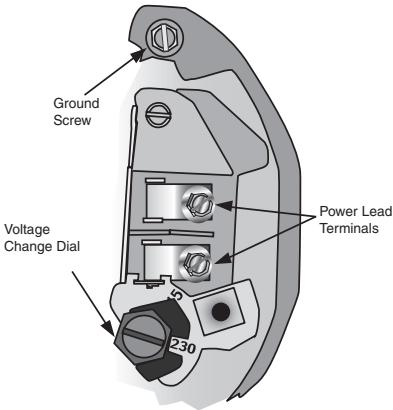

FIGURE 8 - VOLTAGE SET TO 230 VOLT CURRENT. ROTARY SELECTOR
- Refer to Figure 8 for wiring configuration.
- Connect current-carrying conductors to terminals L1 and L2. When replacing the motor, check wiring diagram on the motor nameplate. For 3-phase motors or motor's whose wiring diagram does not match Figure 8, follow the diagram on the motor.